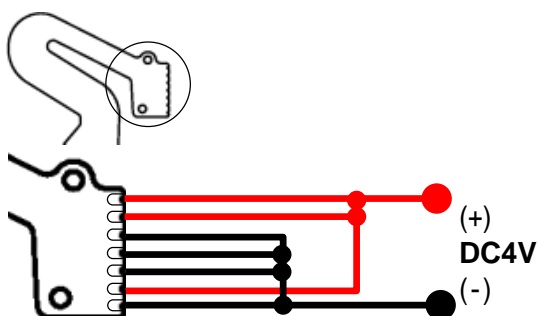

Fig.81
1) Distribute lead wires as shown in Fig.81.